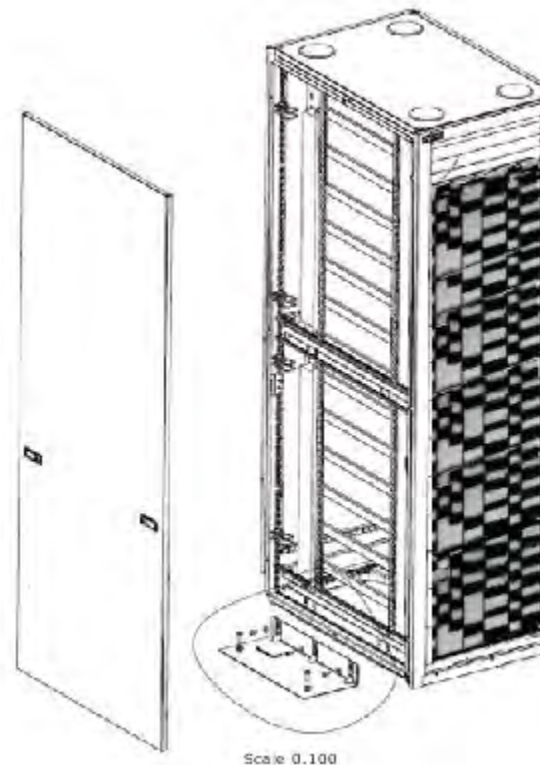

Figure C-13 Installing the side plates
- Install the front anti-tip stabilizing plate when installing or removing equipment to provide greater stability and safety. See Stabilizing the rack on page C-24 and [Installing side stabilizer plates. See Figure C-13 Installing the side plates on page C-26 and Figure C-14 Installing the side plates \(detail A\) on page C-26.](#)